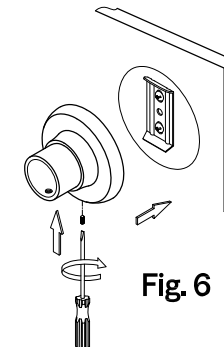

Fig. 6
Step 5. Place the mounting unit against the mounting plate that is installed to the wall surface. Above the mounting unit there is a small screw hole, tighten the set screw with a flathead screwdriver until it is securely fixed to the wall (Fig 6).